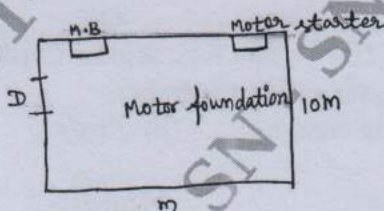

Fig. Q6 (c)
- c. A 10 HP, 415 V, 3 ϕ , 50 Hz induction motor is to be installed in a workshop the plan of which is shown in Fig. Q6 (c). Show the single line diagram and estimate the quantity of material required. (10 Marks)